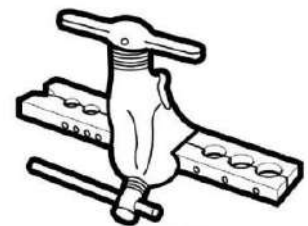

Fig. 5.4
5. Clamp flare form on the end of the tube. The end of the tube must extend beyond the edge of the flare form in accordance with the dimensions shown in the table below. See Fig. 5.4.